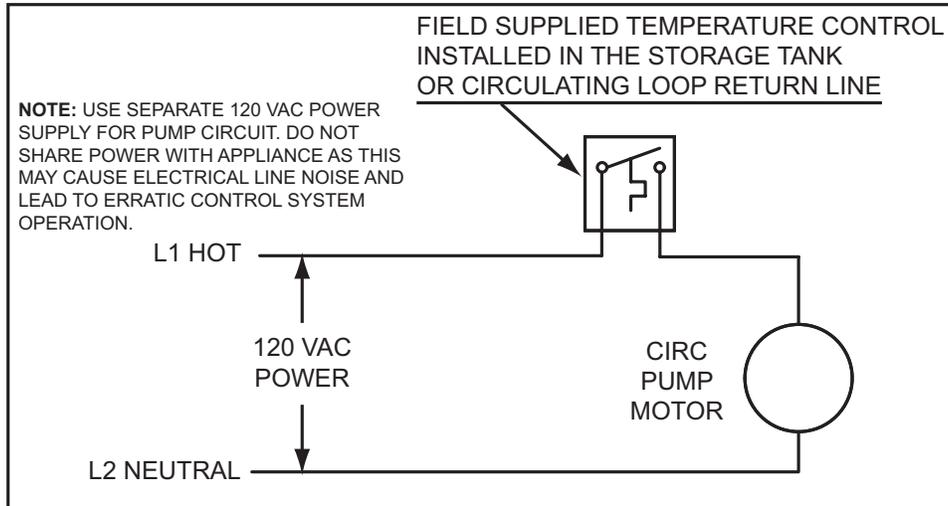

Figure 63. Recirculating Loop with Storage Tank or Building Recirculation
6. If a pump is being installed between a water heater and storage tank or on a building recirculation loop wire according to *Figure 63* (page 72).